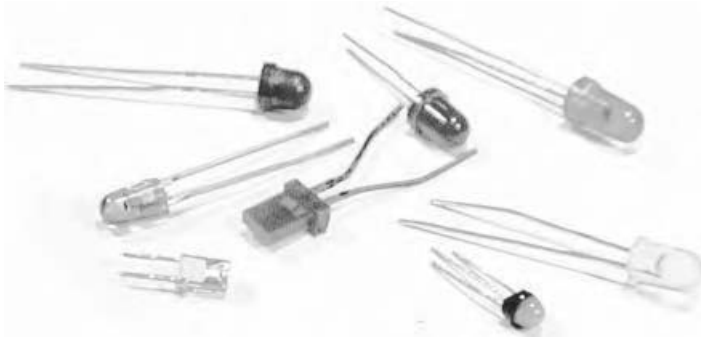

Figure 12.6 Some LEDs.
- LEDs (Light Emitting Diodes): colorful sources of light (see figure 12.6).